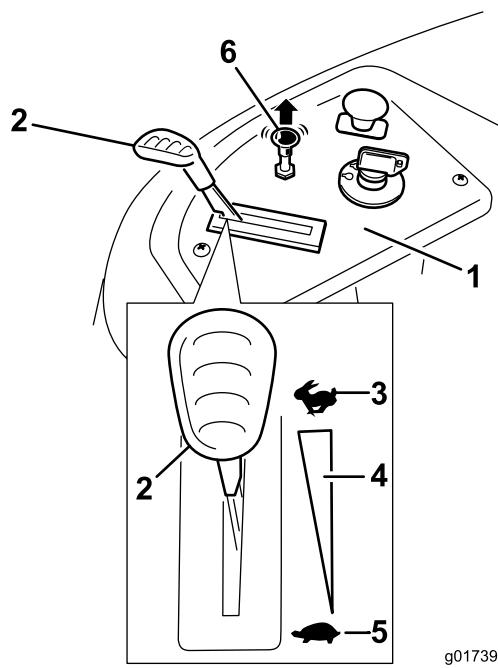

Figure 15
3. Pull up on the Choke control before starting a cold engine (Figure 15).
2. Move the throttle lever to between the Fast position (Figure 15).